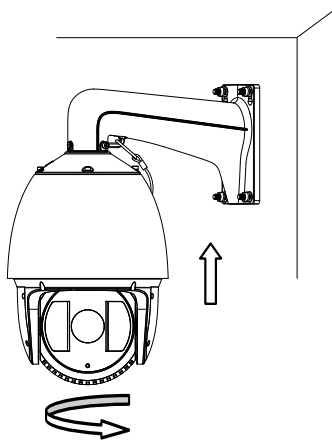

Figure 2-29 Install the Speed dome
6. Align the speed dome with bracket and rotate it counterclockwise or clockwise to the bracket tightly as shown in Figure 2-29.